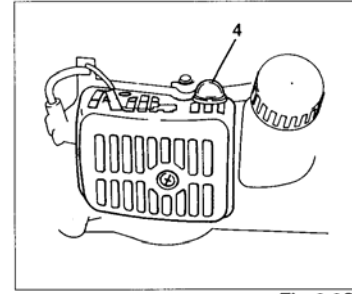
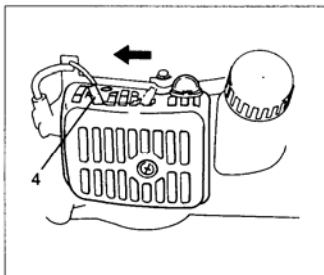

Fig. 2-2C
Fig. 2-3
*Push priming bulb (4) several times so that fuel flows through the bulb or return pipe. (if so equipped)(Fig. 2-2C)
2. With the safety lever (2) pressed (if so equipped), pull throttle trigger and push lock button (3) (if so equipped), then slowly release the throttle trigger first, then the safety lever. This will lock the throttle in the starting position.
3. Set choke lever to CLOSED position (4). (Fig. 2-3)